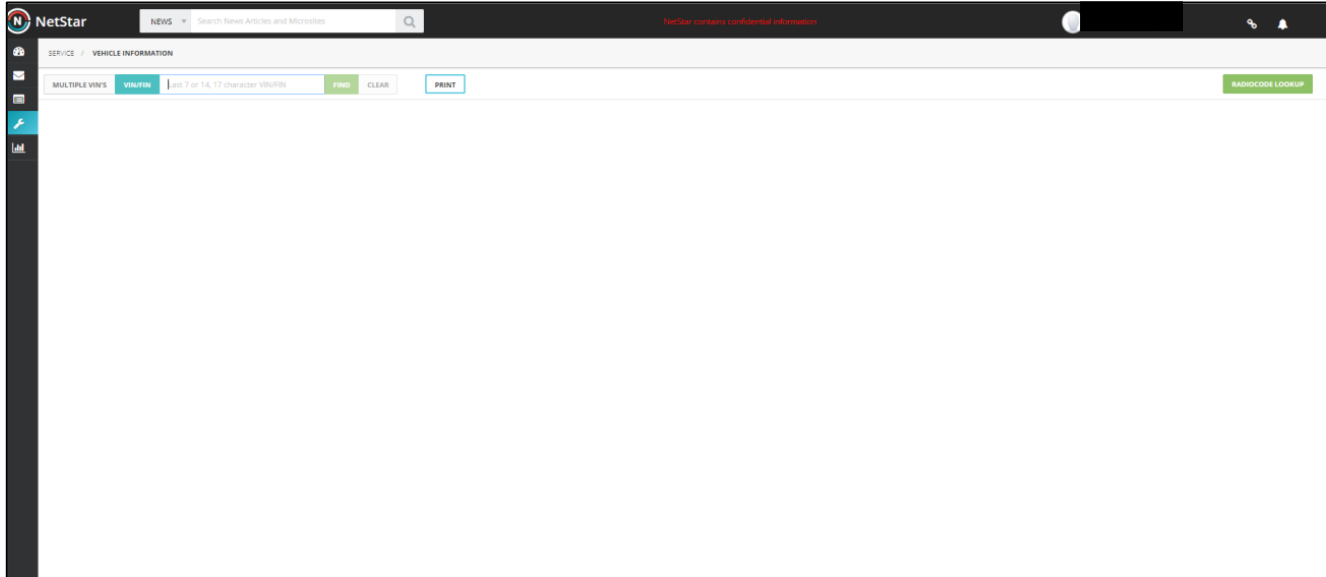

Figure 4
1. Log in to "NetStar" and call up the Vehicle Master Inquiry (VMI) screen (Figure 4).
3. Click on the "OTA update" link (Figure 4).